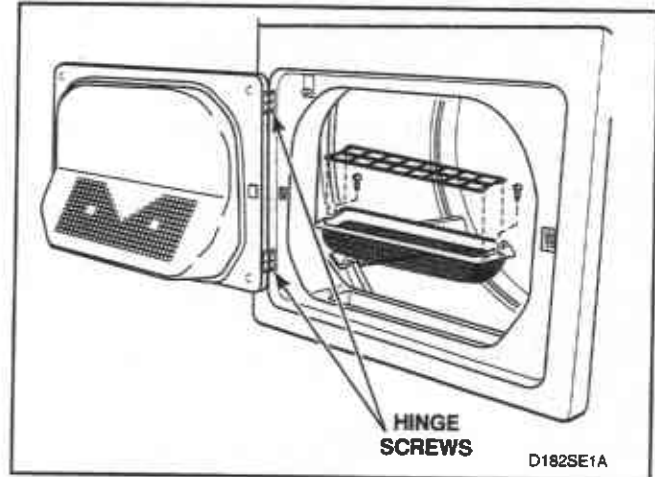

Figure 14
- i. While supporting door assembly, secure hinges to front panel using the four remaining screws, *Figure 14*. Tighten all screws firmly.